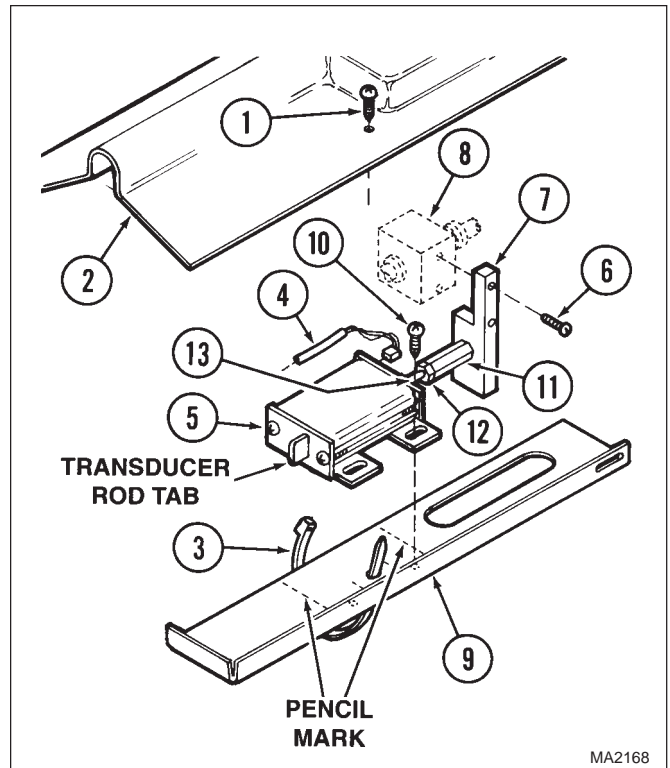

Figure 4-45. Lateral Tilt Transducer Removal / Installation
- (1) Remove two screws (1, Figure 4-45) and push the lateral tilt cover (2) up out of the way.
- (2) While pressing the Emergency COMPUTER CONTROL OVERRIDE SWITCH, operate the lateral tilt function to the position which provides the best access.
- (3) Cut cable tie (3) which secures wire harness (4) to lateral tilt transducer (5).
- (4) Disconnect wire harness (4) from lateral tilt transducer (5).
- (5) While pressing transducer rod tab to relieve tension, remove two screws (6) which secures nut guide (7) to lead nut (8). Release transducer rod tab.
- (6) Using a pencil or sharp object, mark the present position of the lateral tilt transducer (5) on the transducer plate (9) by tracing the outline of the lateral tilt transducer mounting brackets.
- (7) Remove two screws (10) and lateral tilt transducer (5) from transducer plate (9).
- (8) While holding turnbuckle (11), loosen nut (12).
- (9) Unscrew turnbuckle (11) from transducer rod (13).
- (10) Remove nut (12) from transducer rod (13).